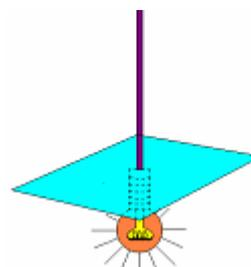
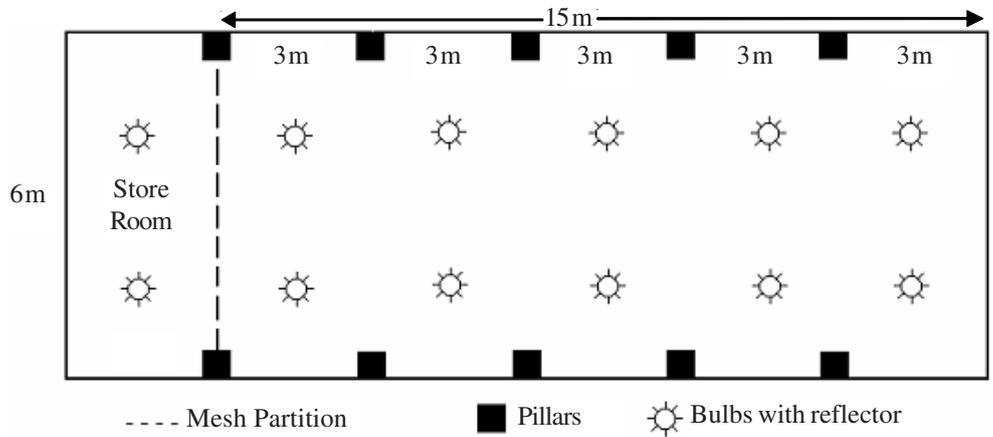

Fig. 1.5: Incandescent bulb with reflector
Fig. 1.7: Floor diagram of a broiler house
- Incandescent bulbs with a square reflector (Fig.1.5) of size 30 cm (1 ft) fixed stiff at a height of 1.8 m in two rows (Fig. 1.7) will ensure optimum distribution of light. If possible, timer device can be provided to put off the light automatically during the day. Each bulb should have a separate switch.
Floor diagram is a picture you would get when roof is removed and you are viewing the building from the top. Floor diagram of the broiler house for the above example is given below (Fig. 1.7):